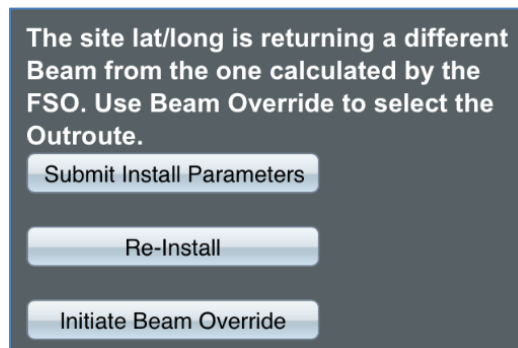

Figure 34: Beam mismatch
5. *(Optional)* If the site location requires a different beam than is listed in the FSO, you will get the message shown in Figure 34 and must choose the beam manually.